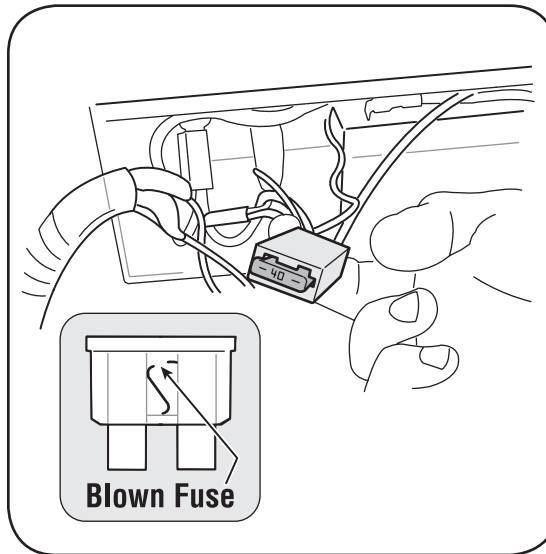

Figure 5-9: When replacing fuse, use a standard automotive 40 Amp fuse.
2. Remove fuse from socket and inspect as shown in Figure 5-9. If it is burned out, replace with standard automotive 40 ampere fuse.